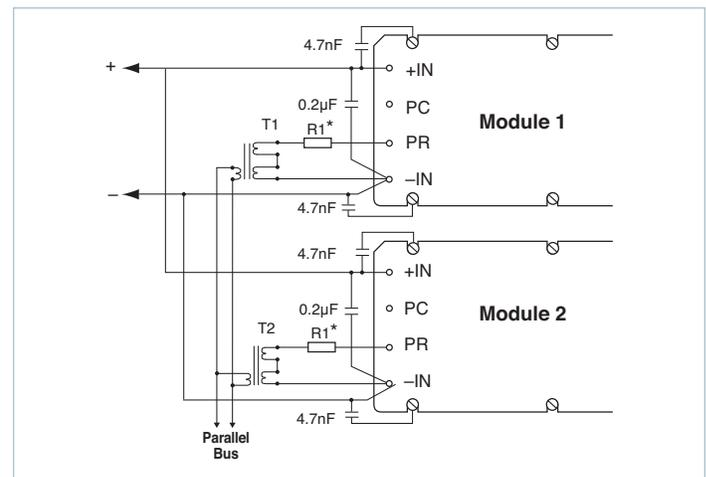

Figure 2.8 — Transformer-coupled interface
2. **Transformer-coupled interface:** Modules or arrays of modules may also be interfaced to share a load while providing galvanic isolation between PR pins via a transformer-coupled interface. For large arrays, buffering may be required. The power source for the buffer circuit may be derived from the PC pins. For arrays of four or more modules, the transformer-coupled interface is recommended. (Figure 2.8)
Figure 2.8, is required to prevent inter-module common-mode noise from interfering with the sync-pulse transmission. High-speed buffering may be required with large arrays or if the distance between modules is greater than a few inches. This is due to the fact that all modules, except the one that’s talking, are in the listening mode. Each listener presents a load to the master (talker), which is approximately 500 Ω shunted by 30pF capacitance. Long leads for the interconnection introduce losses and parasitic reactance on the bus, which can attenuate and distort the sync-pulse signal. The bandwidth of the bus must be at least 60MHz and the signal attenuation less than 2dB. In most cases, transformer coupling without buffering is adequate. Many applications may benefit from the addition of Z1, in series with the PR Pin of each converter. A low-Q 33 Ω @ 100MHz ferrite bead or a 5 – 15 Ω resistor may be used to improve the PR signal waveform. Although this is not a requirement, it can be very helpful during the debug stage of large converter arrays to help improve the PR pulse wave shape and reduce reflections. Again, careful attention must be given to layout considerations. When the outputs of two or more converters are connected in a parallel array to increase system power the converters should be “group enabled” to ensure that all the converters start at the same time. The PC pins of all converters in the array should be controlled by an external circuit which will enable the converters once the input voltage is within the normal operating range. Please consult with Applications Engineering at any Vicor Technical Support Center for additional information.